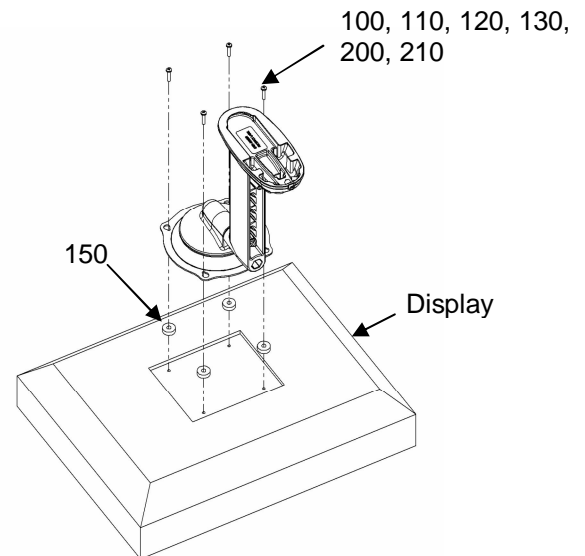

Figure 7. Recess Mount Centris Bracket to Display
2. Select four screws (100, 110, 120, 130, 200, or 210) and four spacers (150) from parts bag.
3. Place four spacers (150) over mounting holes on back of display (see Figure 7).
5. Install four screws (100, 110, 120, 130, 200, or 210) to attach Centris bracket to display (see Figure 7).